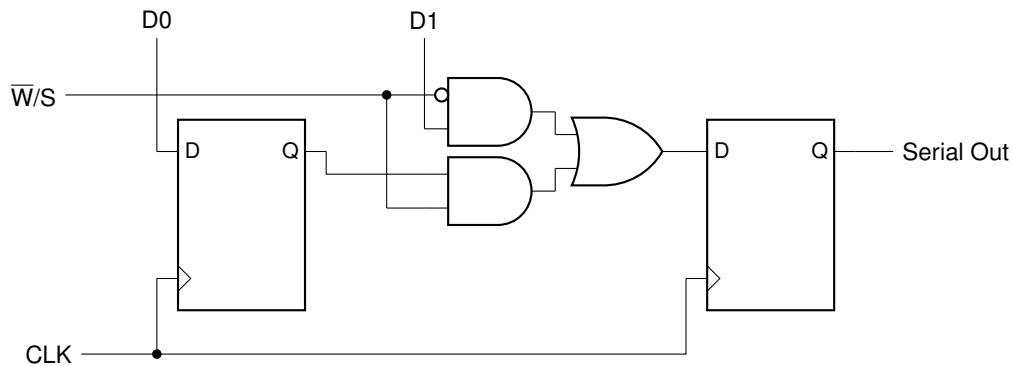

Figure 5.7: Schematic of a 2-bit parallel in/serial out (PISO) register.
**Parallel in / serial out (PISO)** registers are used to input data from a general purpose register or memory and to output that data serially through a serial communication protocol. A schematic of a 2-bit PISO register is shown in Figure 5.7 (only two bits are shown to save space). A control signal  $\overline{W/S}$  is used to control if the data loads into the flip-flops (which occurs when the signal is held LOW) or if data shifts through the flip-flops (which occurs when the signal is held HIGH).